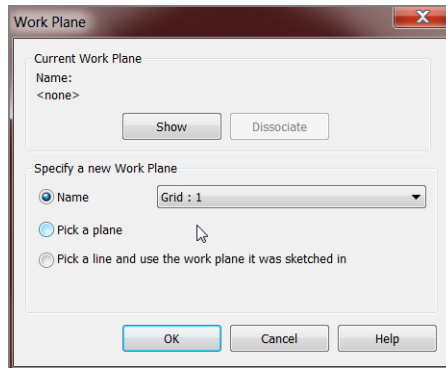

FIGURE 8.45: Specifying Grid : 1 as the work plane for the bracing
8. Revit displays a dialog asking you to specify a work plane. In the Name drop-down list, select Grid : 1, as shown in Figure 8.45, and then click OK.